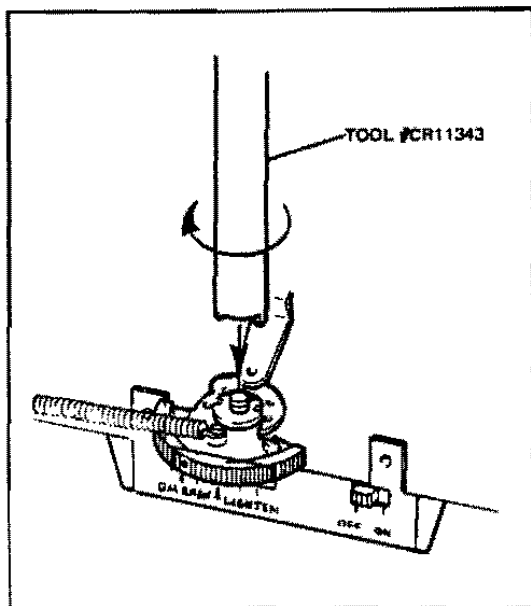

FIG. 4-27 TIGHTENING THE ADJUSTMENT NUT
3. Align the white dot on the "Darken-Lighten" wheel with the extreme DARKEN crossline and tighten the locknut using tool CR11343 (Figure 4-27).